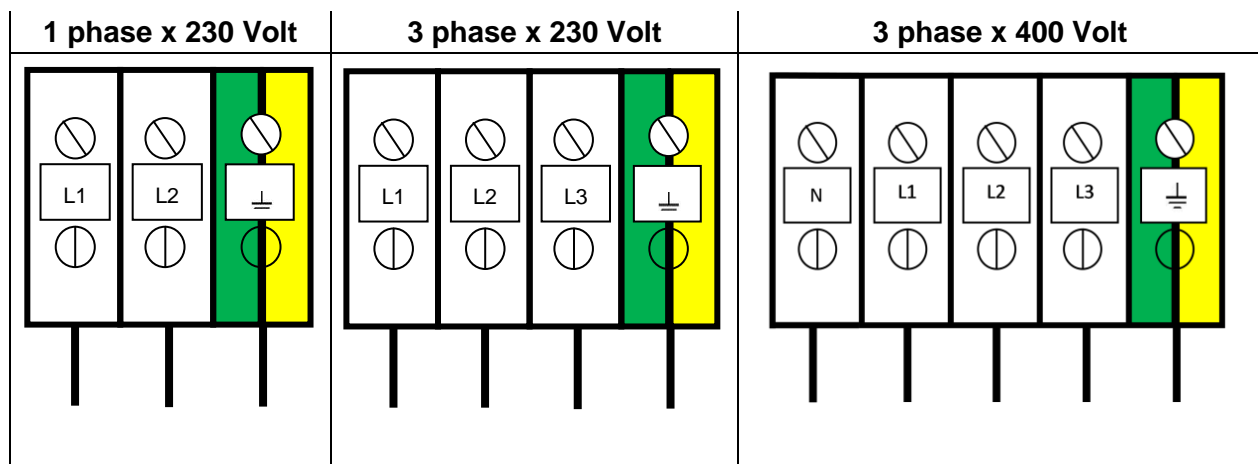

Figure 7: Recommended Electrical Connection
2. Insert the main power cable by passing it through the strain relief at the back of the Control Panel (A, page 13) and connect as shown in Figure 7 above.